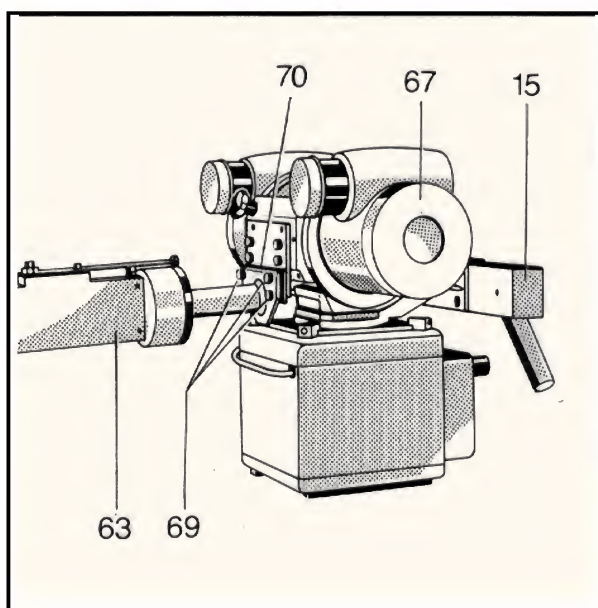

Fig. 14
Put preassembled tube-collimator assembly (Fig. 14/item 67) down on level of tube support arm and mount to support arm (item 68) by means of screws (item 69) after inserting adjusting plate (item 70). Connect cable with plug in control handle (item 15).-